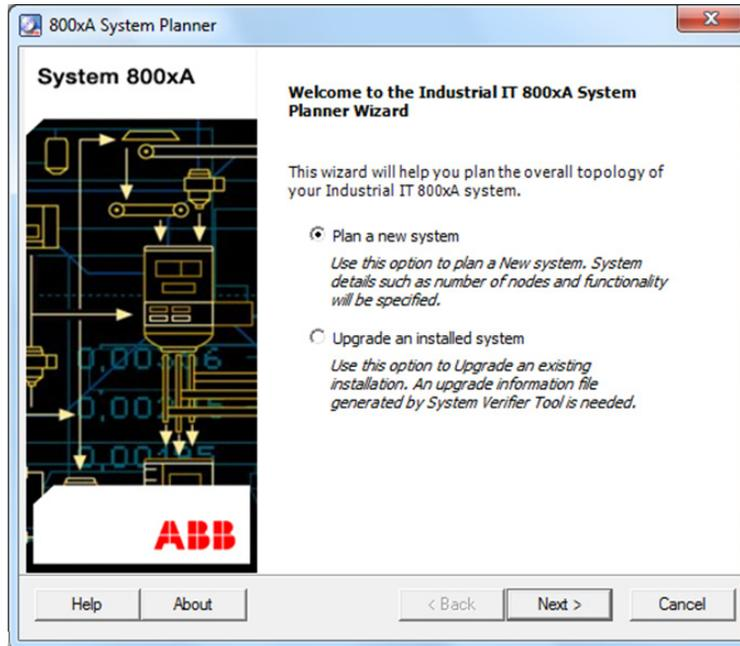

Figure 8. System Planner Wizard Welcome Dialog Box
4. Double-click `System Planner.exe` to launch the System Planner Wizard (Figure 8).